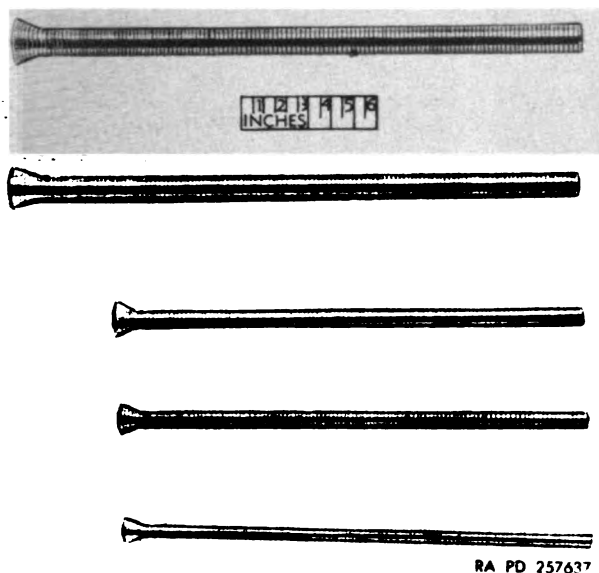

Figure 167. Hand pipe and tube benders.
138. Purpose of Benders and Pullers (figs. 167 through 172)
a. Benders. Benders (fig. 167) issued by the Army Ordnance supply system are of the spring type sized to fit pipe and tubing ranging from $\frac{1}{4}$ to 1 inch in diameter.